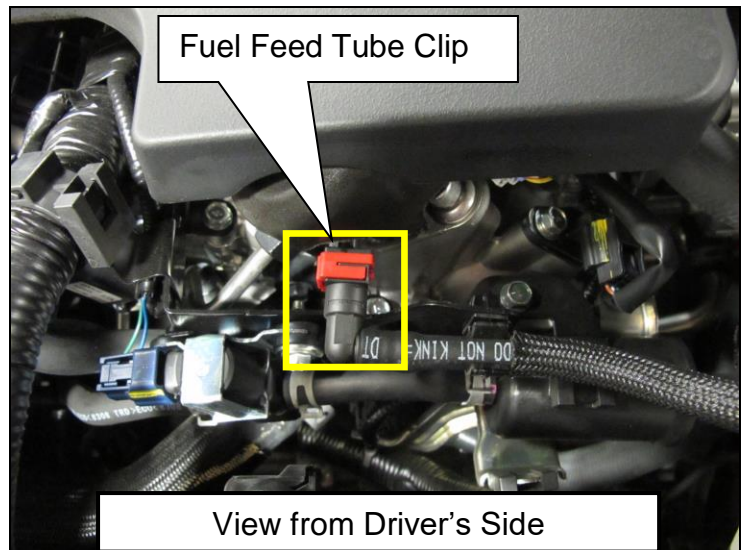

Figure 4
4. Locate Fuel Feed Tube Clip and prepare for inspection in "Step 5" (Figure 4).